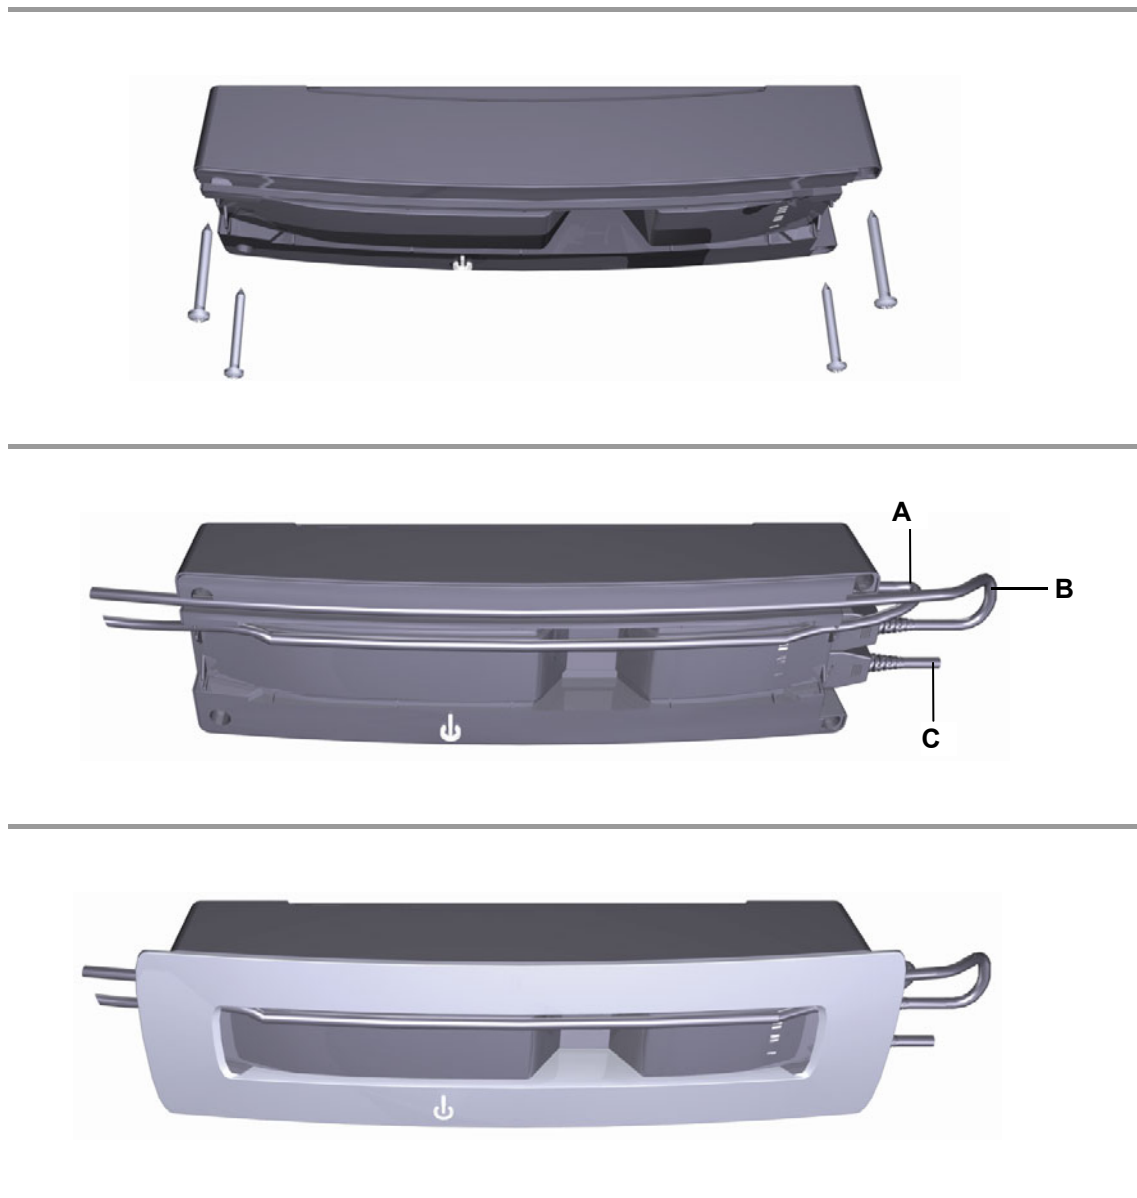

Figure 18 Mounting the control units (example of Motion Manager 2)
- 4 Route the lifting column cables, the keypad cable and/or the synchronous cable through the cable clamps on the control unit (refer to Figure 18).